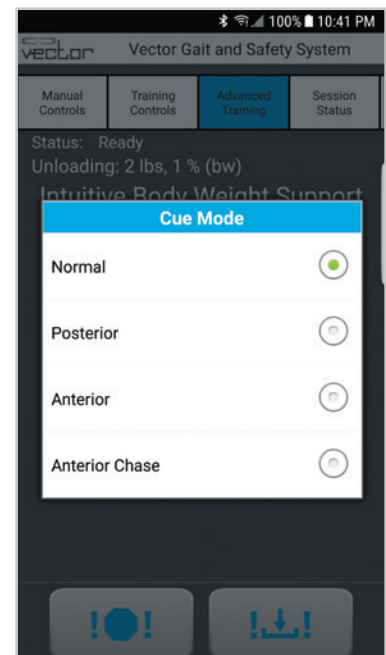

Figure 9-27
2. Open the drop-down menu and select the Posterior Cue or Anterior Cue mode. See Figure 9-27.